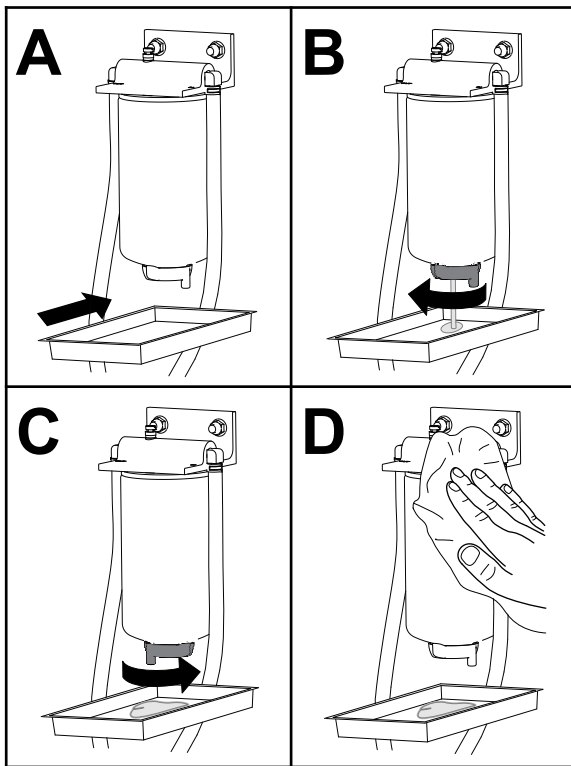

Figure 53
1. Drain water from the fuel/water separator as shown in Figure 53.
1. Replace the fuel/water separator as shown in Figure 53.